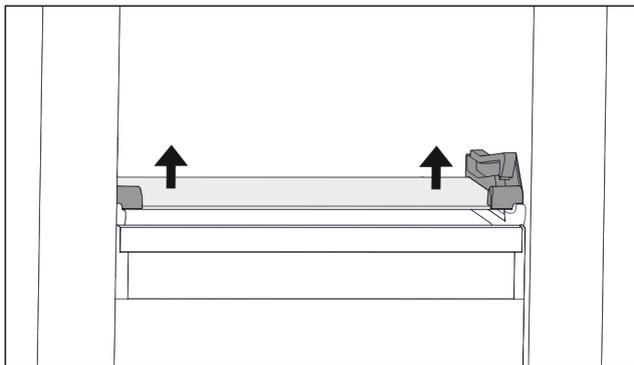

Fig. 92 Tilting drawer glass shelf
- ▶ Push glass shelf upwards from below on both sides. (see Fig. 92)